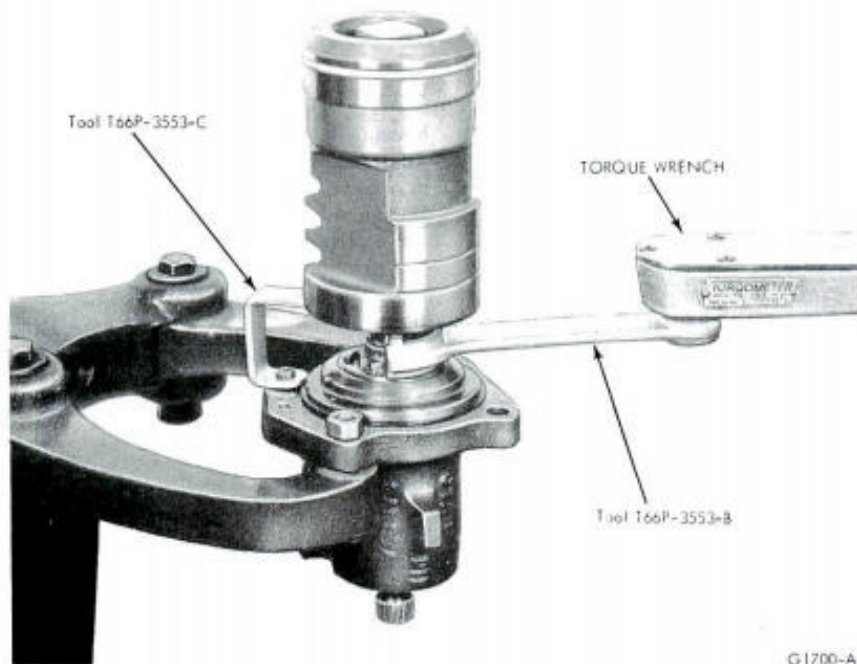

FIG. 13—Installing Worm Bearing Race Nut
16. Install the worm bearing race nut and torque to specification using Tool T66P-3553-B (Fig. 13).